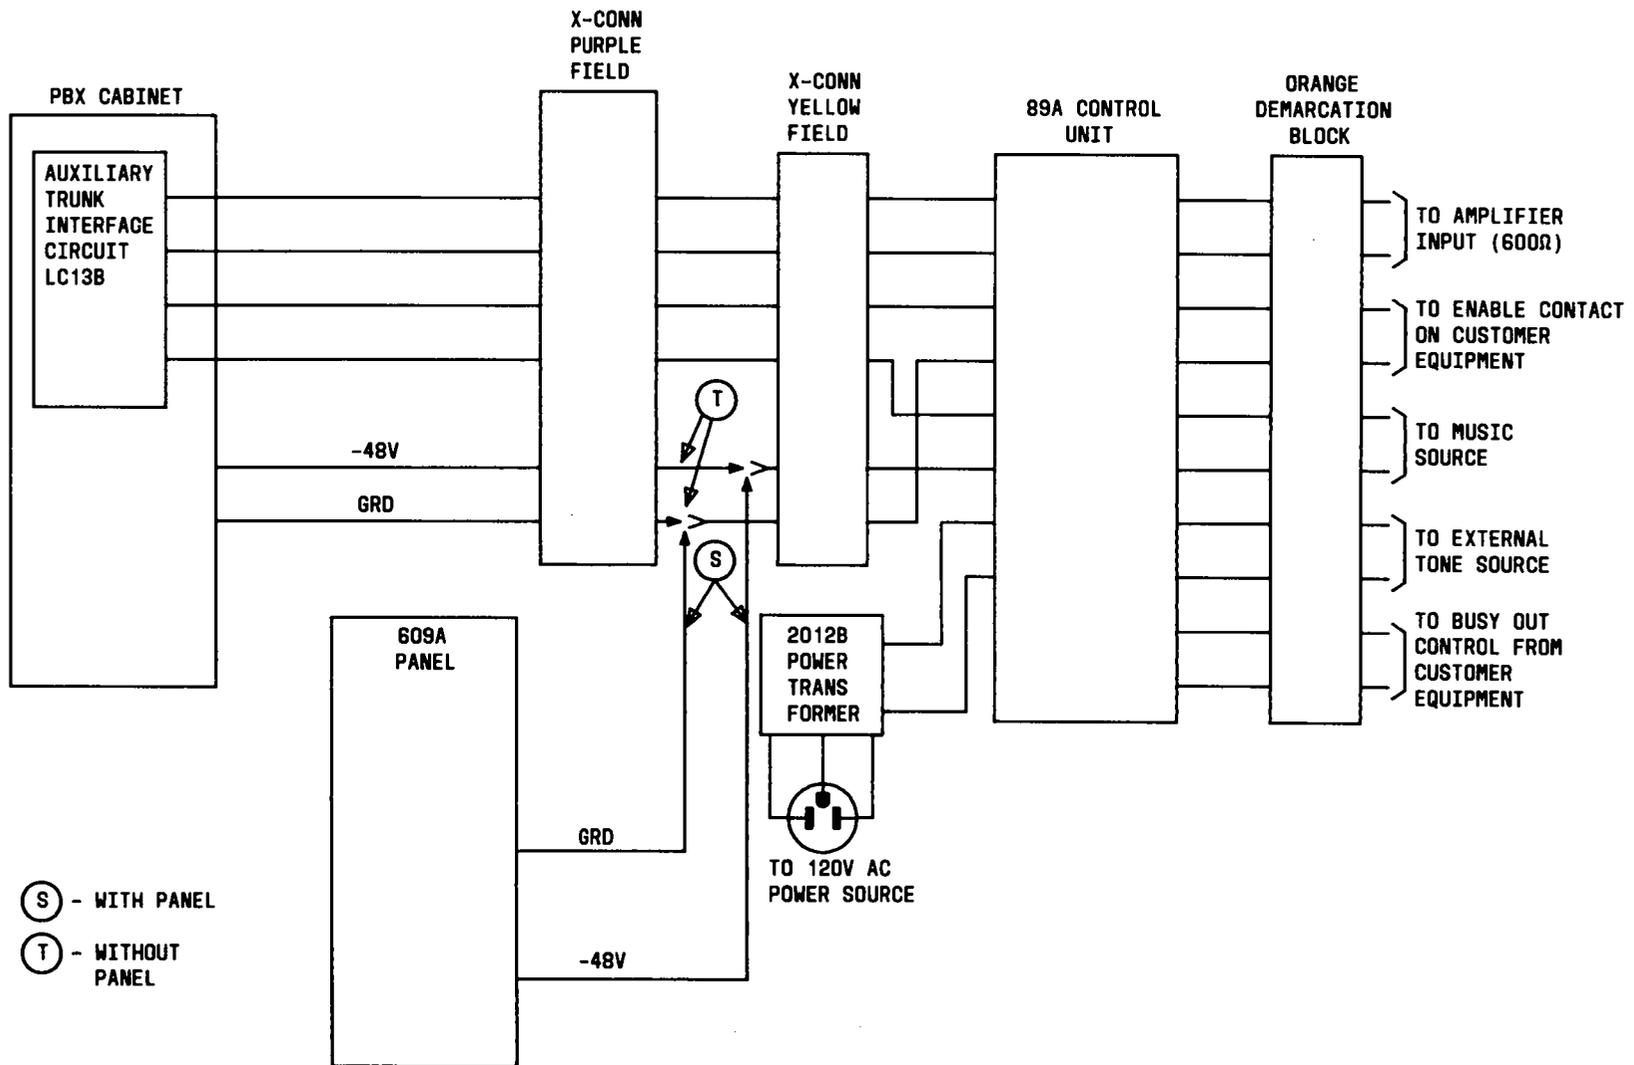

Fig. 30—Loudspeaker Paging Connections
**4.88** Up to three LC13B auxiliary circuit packs can be cross-connected to paging equipment allowing a maximum of six paging zones. Connections for loudspeaker paging are illustrated in Fig. 30.